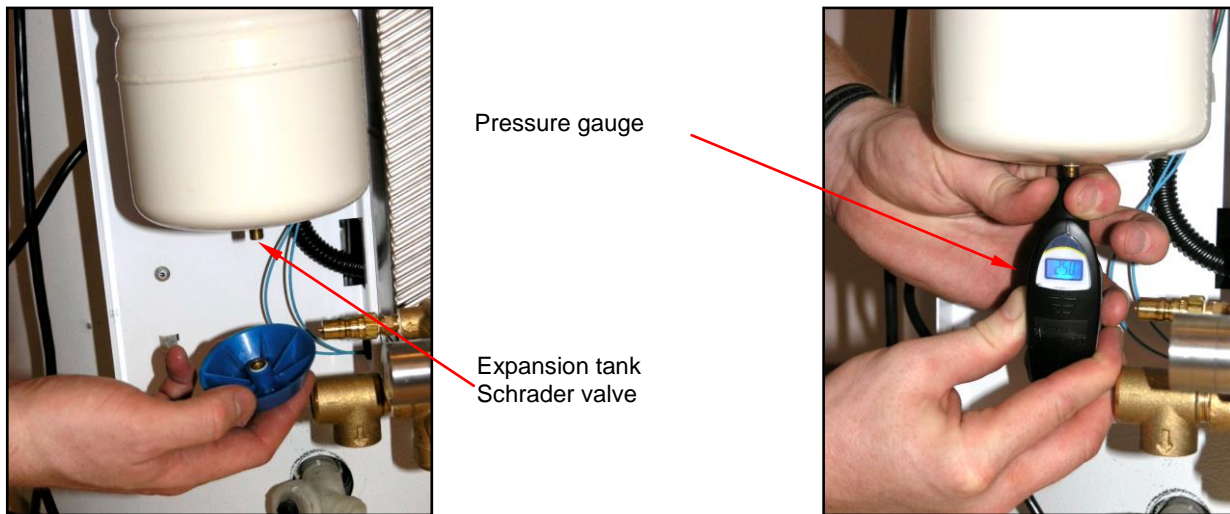

Fig.4.2.4 – Expansion tank Schrader valve and pressure measurement.
- Using a tire pressure gauge, check expansion tank air pressure (Fig.4.2.4). Pressure should be **25 psi**; Adjust as necessary.